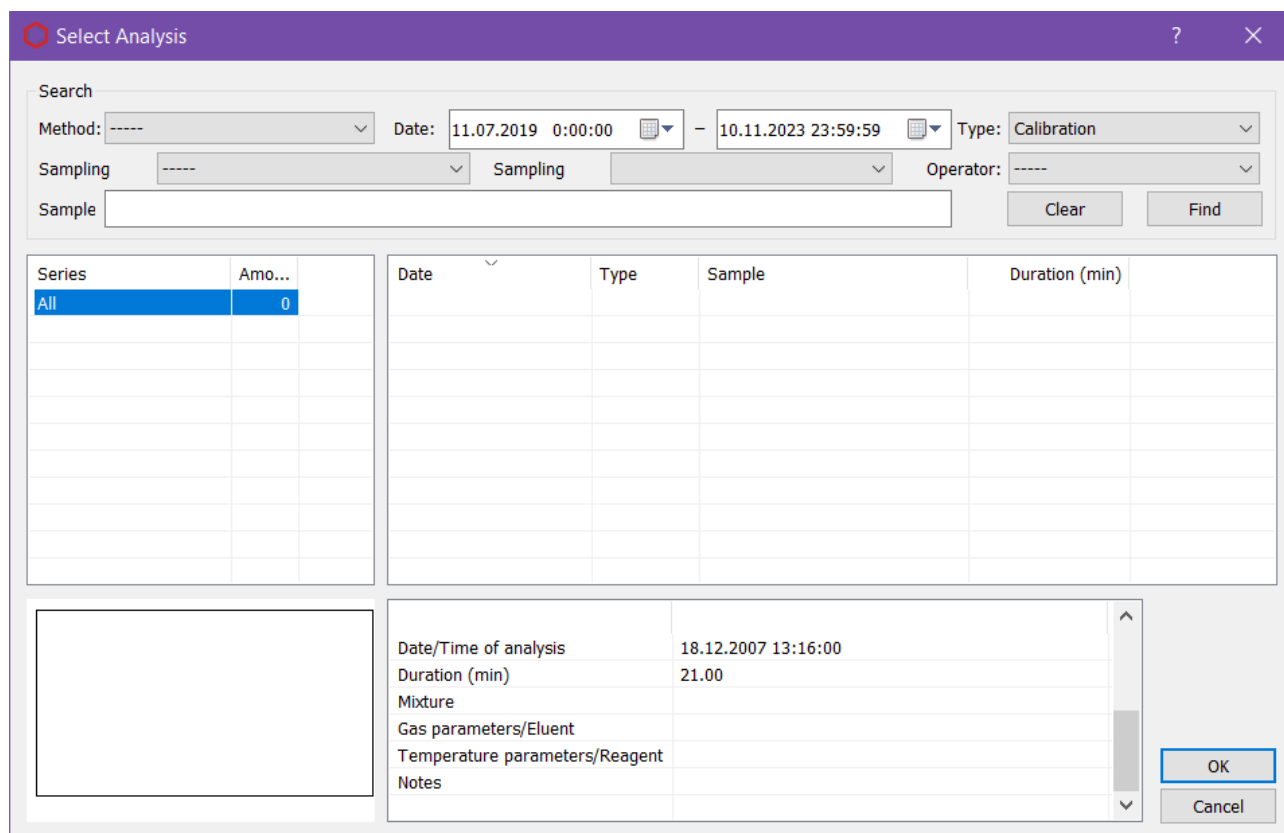

Fig. 5. Select Analysis
1. Click **Add**. The *Select Analysis* window opens (Fig. 5).
2. (Optional) To add a chromatogram for calibration check in accordance with GOST R 54484-2011, click **New Calibration**. The *Select Analysis* window opens (Fig. 5).